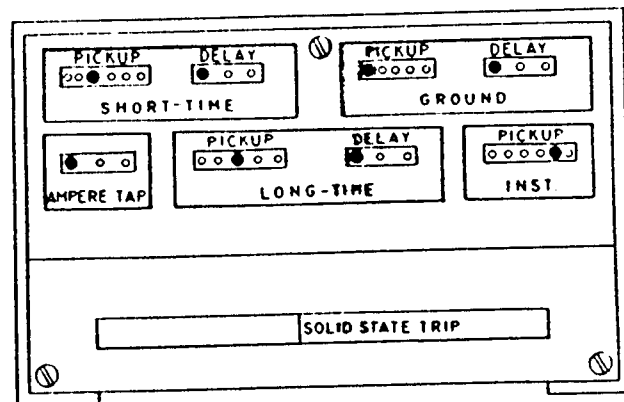

Fig. 19 — Solid State Overcurrent Trip Device Type SS-5G Shown
1. Turn adjusting screw (1) out as far as possible so that the circuit breaker will not trip when the magnetic latch trips.
2. Remove the terminal block cover on the solid state assembly by removing two lower screws (Fig. 19). Disconnect two wires at terminals 15 and 16.
4. While lightly holding down at point "A" so that the lever (2) does not move through its full stroke and trip the circuit breaker, momentarily apply the voltage (3V) from two dry cell batteries, size "D", to the two wires (+ to wire 16, - to wire 15) that were disconnected in operation 2. The magnetic latch should trip.
5. Gradually release the hold on lever (2).
6. While holding the lever (2) in the tripped position, turn in on screw (1) until the circuit breaker just trips, then turn in one additional turn.
**SOLID STATE OVERCURRENT TRIP DEVICE SETTINGS (See Fig. 19)**